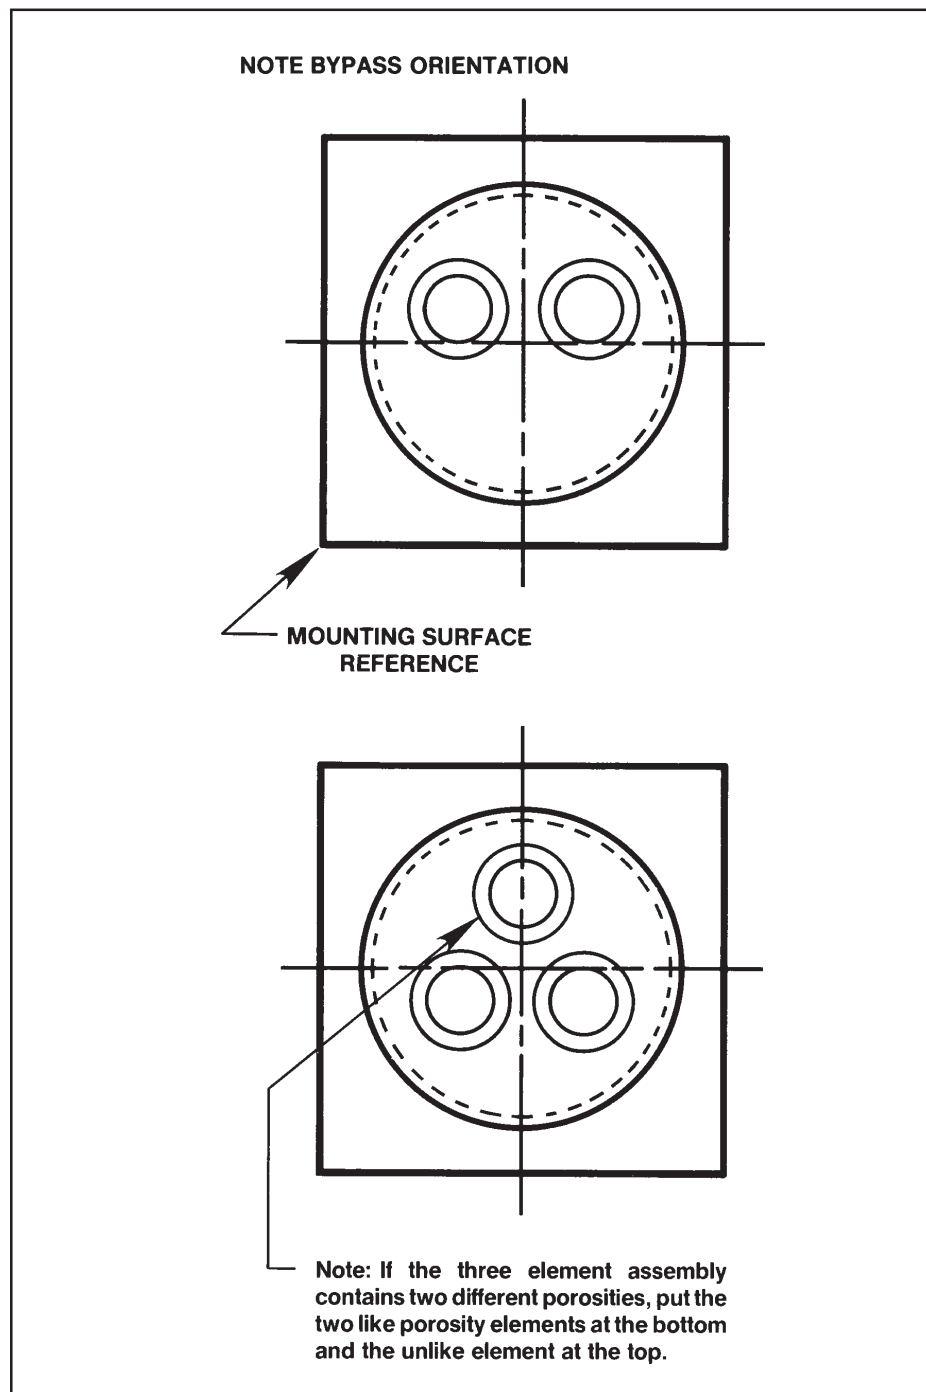

Figure 4-5 Model Mf51/61 Restrictor Element Orientation in Controller/Meter Body
3. Put a lightly lubricated O-ring on the header plate. The restrictor assembly can then be installed in the mass flow controller body (restrictor element(s) go in first). It is important that the restrictor assembly is put into the body in the correct orientation (Refer to Figure 4-5). Push this assembly in with your fingers. Do not use an arbor press or hammer to install the restrictor assembly. The restrictor assembly should be pushed in until it bottoms out. Do not force it beyond this point.